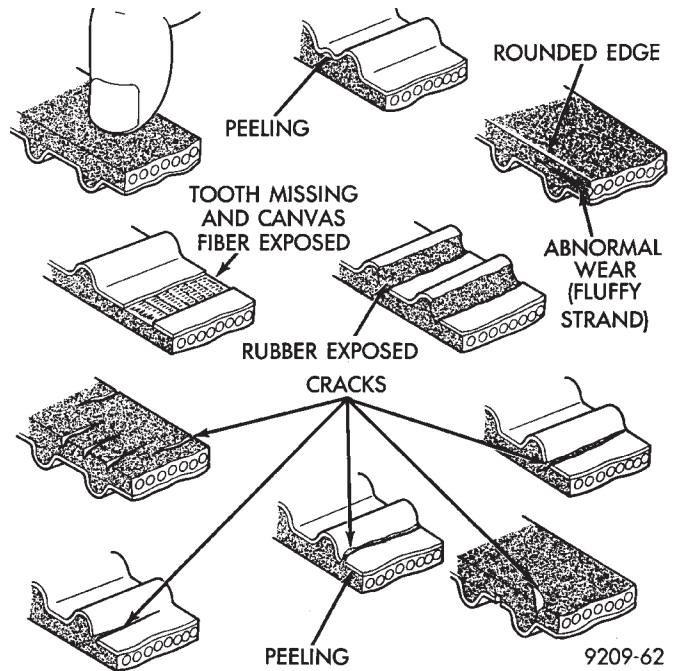

Fig. 12 Timing Belt Inspection
- Abnormal wear of belt sides. The sides are normal if they are sharp as if cut by a knife (Fig. 12).
- (3) If none of the above conditions are seen on the belt, the belt cover can be reinstalled.